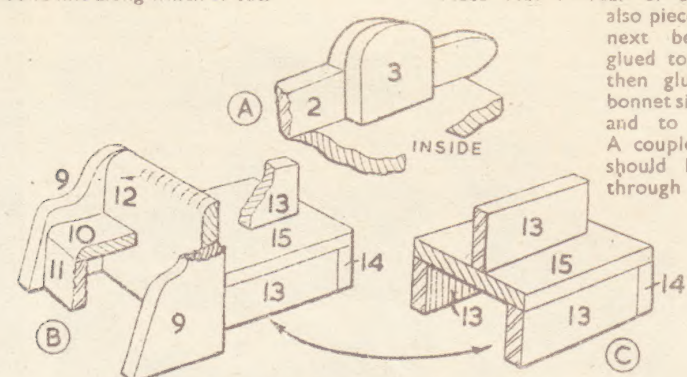
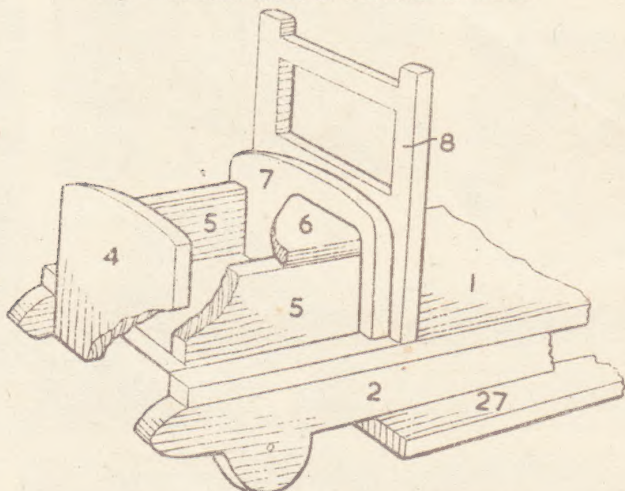

Fig. 2—The seats and detail of stiffener for wheels
Fig. 1—The main floor, bonnet and chassis sides
The seat for the driver and his companion is made up of pieces Nos. 9, 10, 11 and 12. All these are carefully cut and glued up—see detail (B) Fig. 2. The seat at the rear of the driver's seat, consists of pieces Nos. 13, 14 and 15.
No. 1 and flush with the edges (see detail Fig. 1). Holes will be bored in these sides to take the fixing screws of the wheels. To ensure a firm fixing for the wheels, the stiffeners (No. 3) are cut to outline shown, and glued inside the sides (No. 2)—see detail Fig. 2 (A).